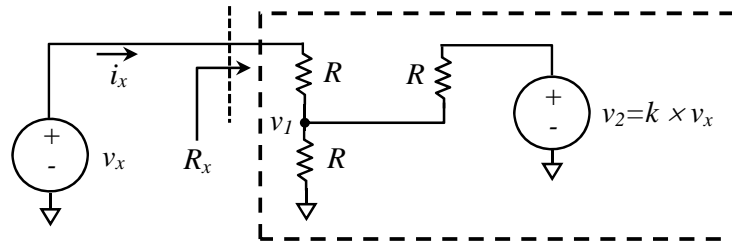

Fig. Q5b
- (b) Derive the value k for the circuit shown in Fig. Q5b such that $v_I = 0.99v_x$.